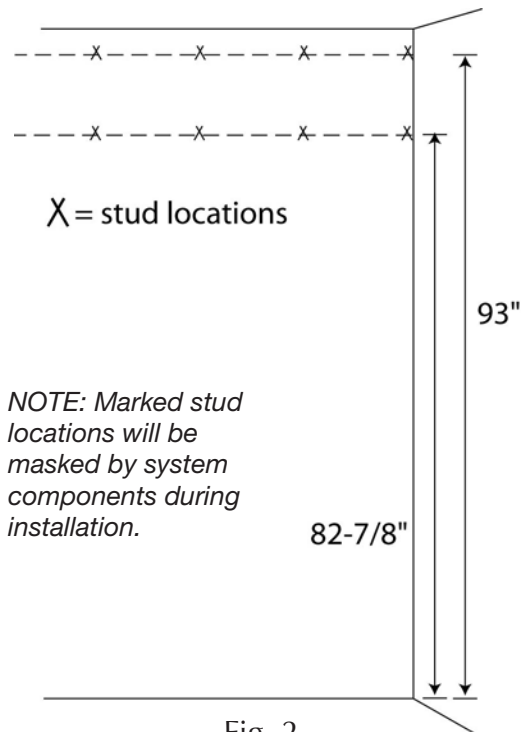

Fig. 2
2. Locate and mark the wall studs along your line. (See Fig. 2.)